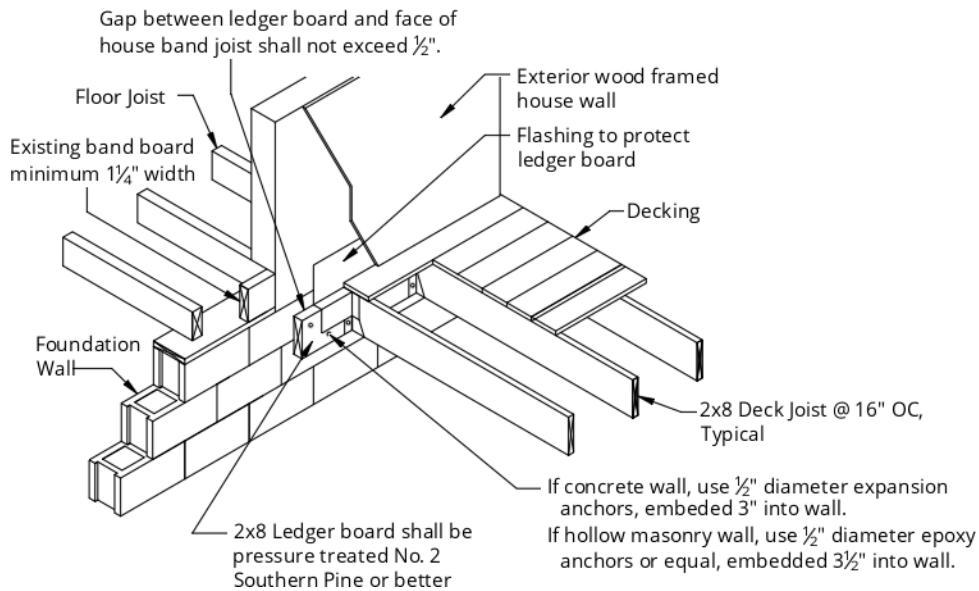

FIGURE 26 - TYPICAL LEDGER ATTACHMENT
- Ledgers shall be flashed in accordance with Figure 26.